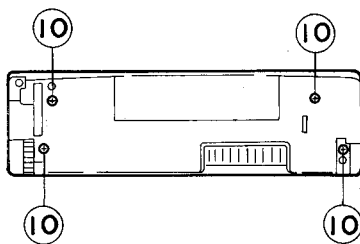

Fig. 2-10
◆ **Front panel unit.** (See Fig. 2-10)
3. Apply DC 6 V to the lead wire of the loading motor assembly and turn the load gear assembly to the position shown in Fig. 2-10.
4. Remove the screw ② securing the cassette holder and holder arm assembly. (Fig. 2-10)
5. Shift the cassette holder and the holder arm assembly in the direction shown by the arrow B and remove them from the interlocking section ③ of the sub chassis assembly. (Fig. 2-10)
4. Remove the two screws ③ and ④ securing the sub chassis assembly. (Fig. 2-10)